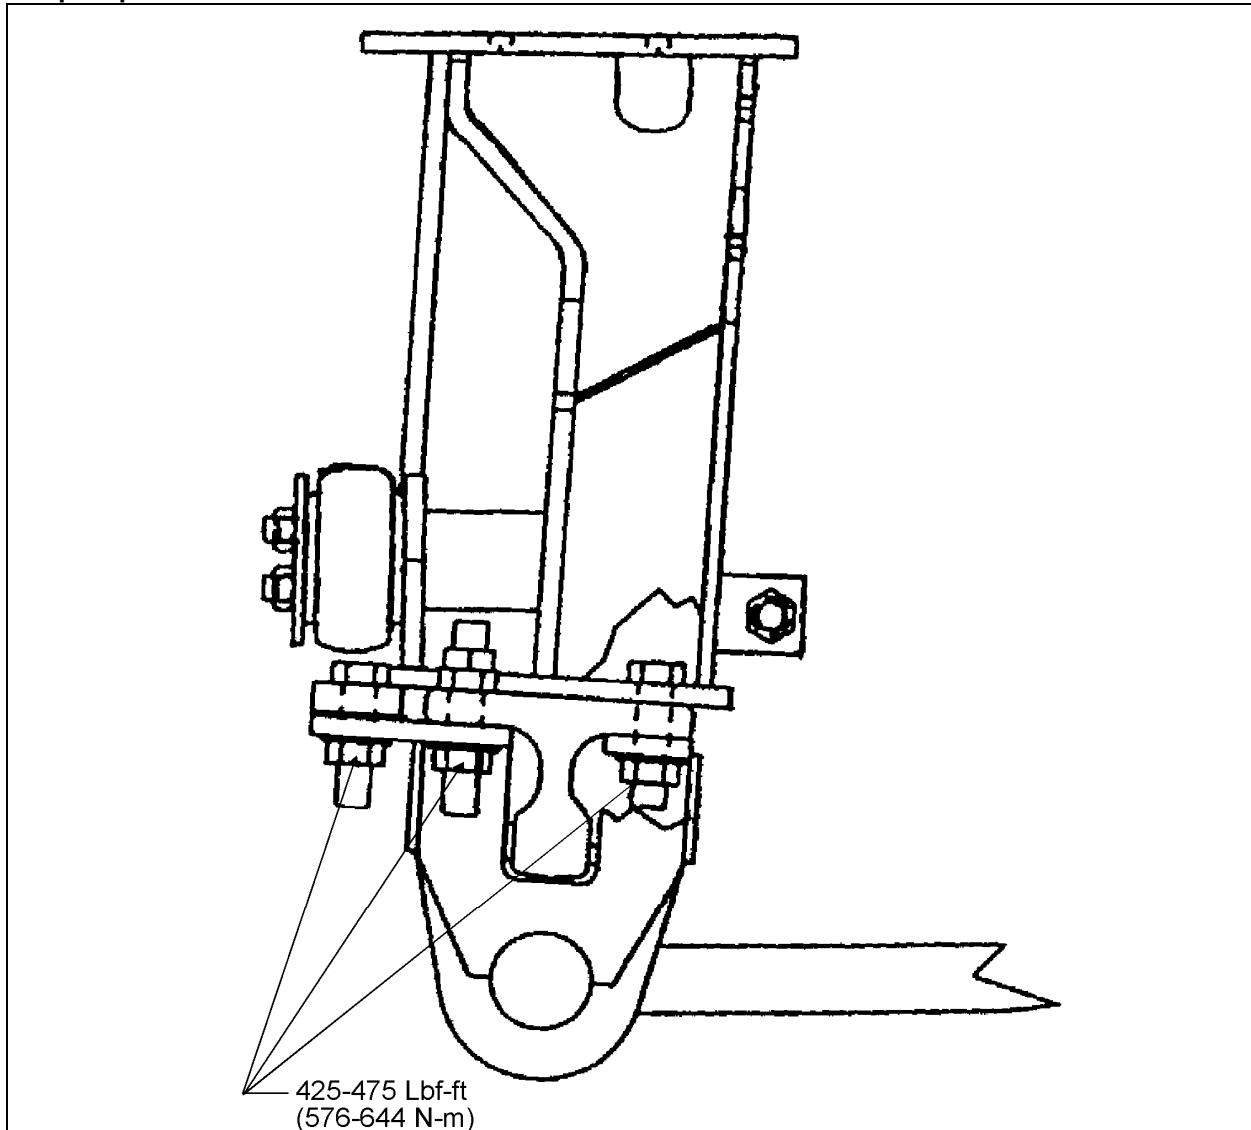

FIGURE 5 : AIR BELLOWS MOUNTING SUPPORT AND AXLE
- FIGURE 5: FRONT AND DRIVE AXLE ALIGNMENT11-6